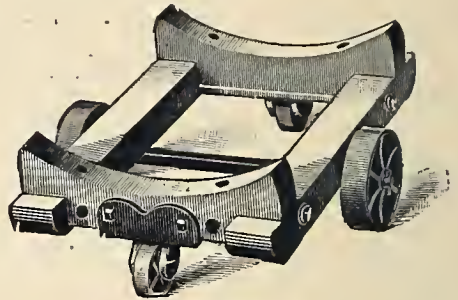

Fig. B 519.
*The Hogshead-Truck*, shown at *Fig. B 519*, is designed to hold a hogshead, and many are used by grocers and wine merchants, in most cases being left under the hogsheads until emptied.